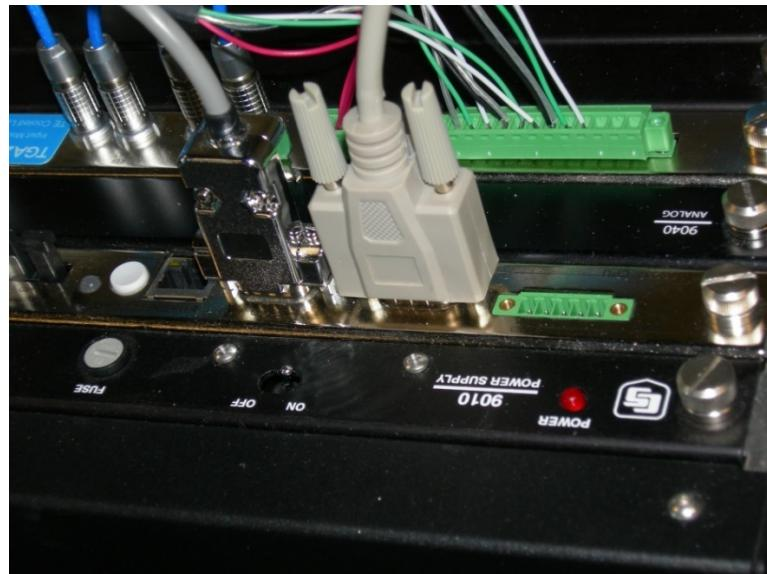

FIGURE 6-18. Serial cable connecting PC to RS-232 port of TGA CPU module
1. As shown in FIGURE 6-18, connect the PCs COM port to the RS-232 port on the TGA's CPU module with a serial cable (pn 20730 is supplied for this purpose).